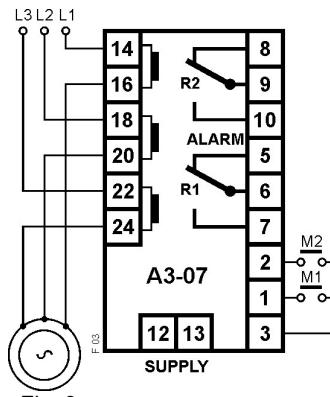

Fig. 3
## COLLEGAMENTI: (fig. 3) e TAB. A
Il dispositivo è ad inserzione diretta per correnti fino a 5A (fig.3), per correnti
**CONNECTIONS:** (fig. 3) and TAB. A
Up to 5A, the device is direct insertion connected (fig.3). For higher values,
the device is connected to 3 suitable CTs, as per wiring diagram of fig.4. No specific sequence is requested in the connection of the three phases. For the other connections, make reference to fig. 3.